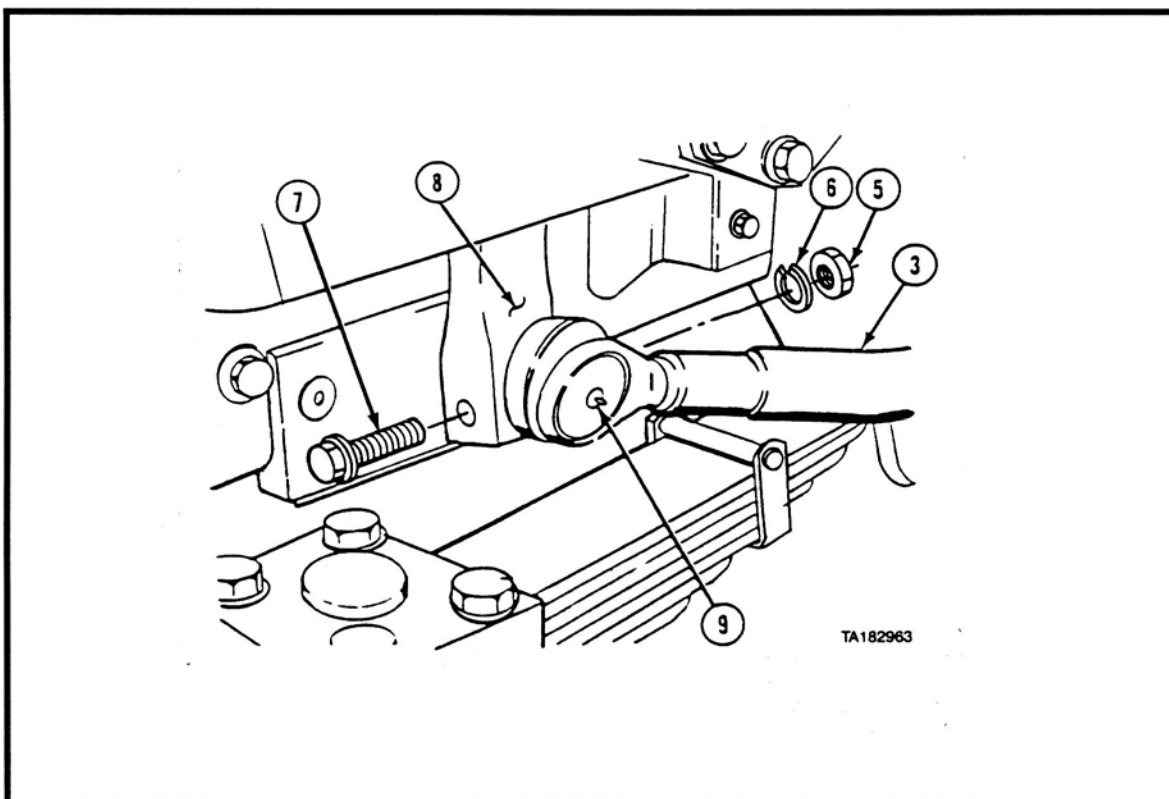

Figure 36A. Remove the drag link from the pitman arm on the steering box.
- A. Remove the nut (Item 5 in Figure 36A), washer (6), and screw (7), and spread the slot in the lower end of the pitman arm.